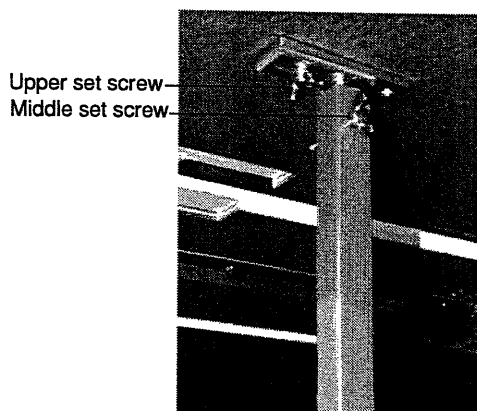

Fig. 6
- 9 As shown in Fig. 6, tighten middle set screw, shut all clamps, insert table stay and tighten knob bolts.